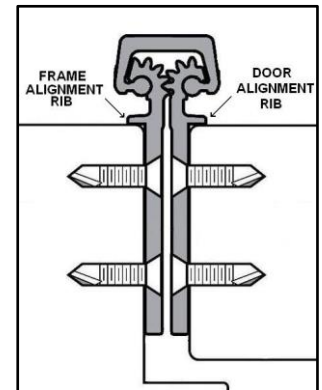

Fig. 2
1. With the hinge open, place the hinge door leaf against the edge of the door making certain that the door alignment rib is flush against the door face along its entire length (See Fig. 2). Position the top of the hinge flush with the top of the door.